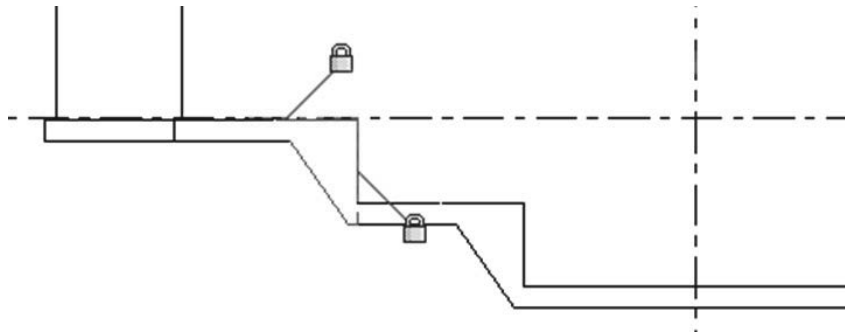

Figure 7-77
5. Which command do you use to add a custom footing type under a wall, such as the ones shown in Figure 7-77?